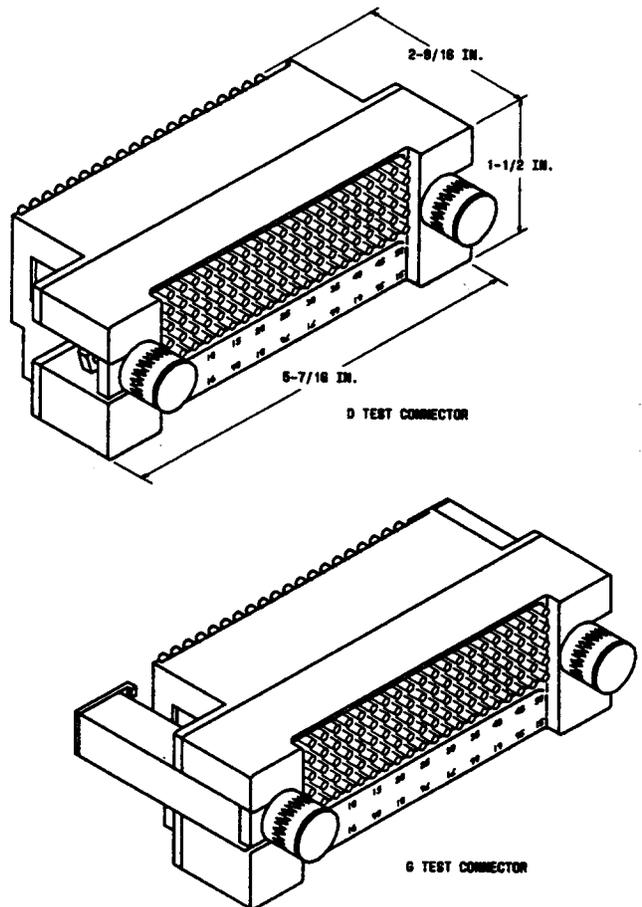

Figure 12—D and G Test Connectors — Mounting Arrangements — For 302-Type Connectors
2.13 The D test connector (Figure 12) is used to make test contacts with the 50 pairs of recessed, gold-plated test terminals on either of the two test terminal fields of the 302A1, 302B1, or 302E1 connector used on the modular protector frames. This test connector is used for one pair-at-a-time testing.